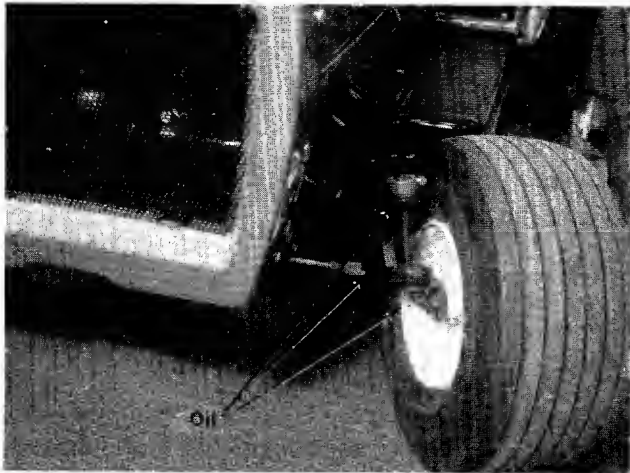

**FIGURE 13. OIL DRAIN**
After the first five hours of operating a new engine, drain the oil (See figure 13.) from the crankcase while engine is still hot and refill crankcase with new oil; thereafter change the oil every 25 hours of operation. This procedure ensures for minimum wear of engine parts and provides for virtually trouble-free operation. To change the oil, proceed as follows:
- Step 1. With the machine on level ground, place a suitable metal container under the oil drain plug, then remove the drain plug. See figure 13.